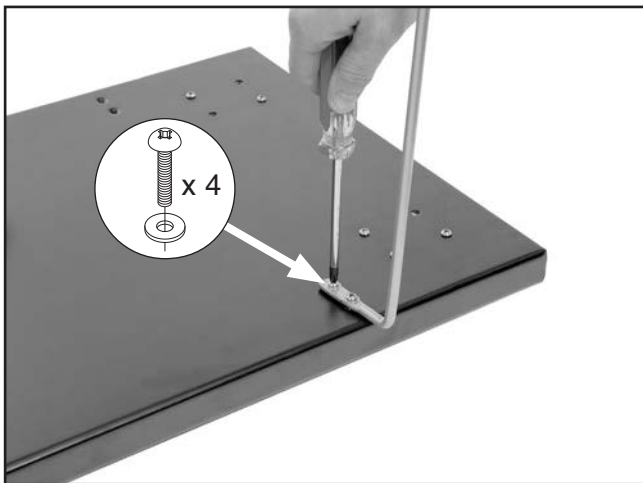

Figure 11. Attaching collection bag support rods to base plate.
- Attach (2) collection bag support rods to base plate with (4) M5-.8 x 15 Phillips head screws, and 5mm flat washers (see **Figure 11**).